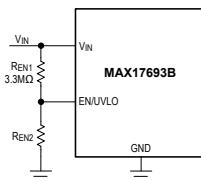

Figure 2. Programming EN/UVLO in MAX17693B
1.215V (typ). The MAX17693A/B turn off if the EN/UVLO pin voltage falls below 1.1V (typ). A resistor-divider from V_{IN} to GND can be used to divide and apply a fraction of the input voltage (V_{IN}) to the EN/UVLO pin as shown in Figure 2. The values of the resistor-divider can be selected such that the EN/UVLO pin voltage exceeds the EN/UVLO turn-on threshold at the desired input-supply voltage.